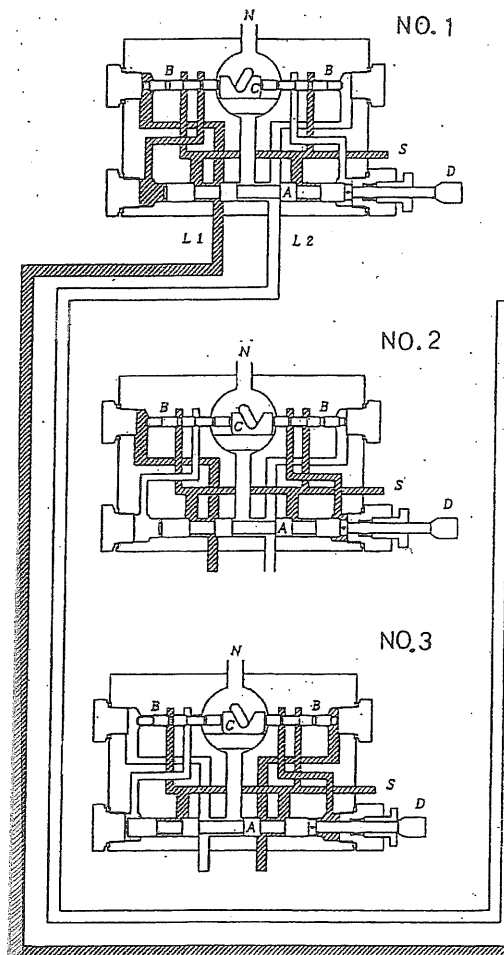

Fig.5 Function of hydraulic-operated reversing valve
The composition is as show in Fig.5.
- (a) In No.1 of Fig.5, grease pressurized by the pump passes through the inlet S and is forced into the main supply pipe L1 by means of the piston A. At this time, the other main supply pipe L2 is connected to the reservoir through N.
The darkened part of Fig.5 show the existence of pressurized grease.
- (b) When the pressure in L1 exceeds the set valve, the rack piston B is moved to the right as shown in the No.2 of Fig.5. During this movement, grease entering into the cylinder through the inlet S is forced against the right end of the piston A by the movement of piston B. At the same time, the left end part of the piston A is connected to the relief line N.
- (c) Grease entering the cylinder through the inlet and pressurized by the pump moves the piston A to the left, as shown in the No.3 of Fig.5. Upon completion of the above movement, the main supply pipe L1 are connected to the relief line N.
During this movement, the grease from the inlet S is fed to the main supply pipe L2. The piston A is provided with a switch lever D, as shown in Fig.5, so that the line reversing operations can be observed from the outside.
When the lubricating pump is started again, grease is admitted into the main supply pipe L2 as shown in No.3 of Fig.5.
After all the measuring valve have been actuated by grease pressurized by the pump, the pressure at the end of L2 line. When the pressure exceeds the set value, the piston B is moved to the left. With the movement of the piston B, the pressurized grease from the inlet S is forced against the left end of the piston A. This allows the piston A to move to the right as shown in No.1 of Fig.5. At this time, the limit switch is actuated by means of the switch lever D, and the lubricating pump stops. The line reversing pressure of this hydraulic-operated reversing valve can be adjusted by means of a spring tension adjustment screw attached to the pinion C. In other words, the adjustment can be accomplished by changing the pressure at the extreme end of the pipe which is used to move piston B meshed with pinion C to the opposite side.